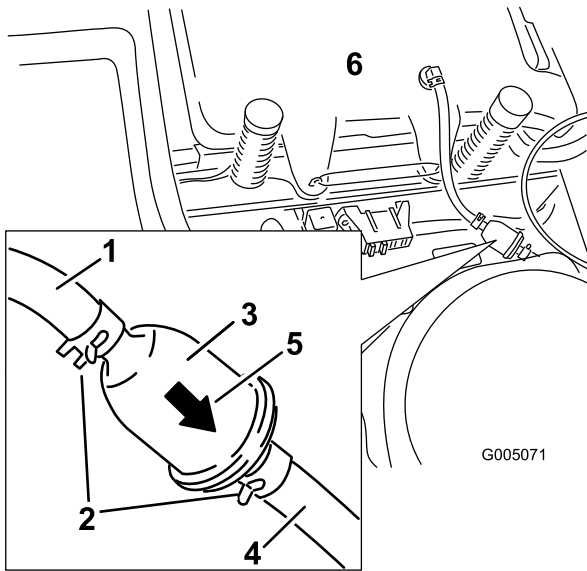

Figure 40
4. Squeeze the ends of the hose clamps together and slide them away from the filter (Figure 40).
6. Install a new filter with the flow direction arrow coming from the fuel tank and pointing to the engine. Move the hose clamps close to the filter (Figure 40) to secure it in place.